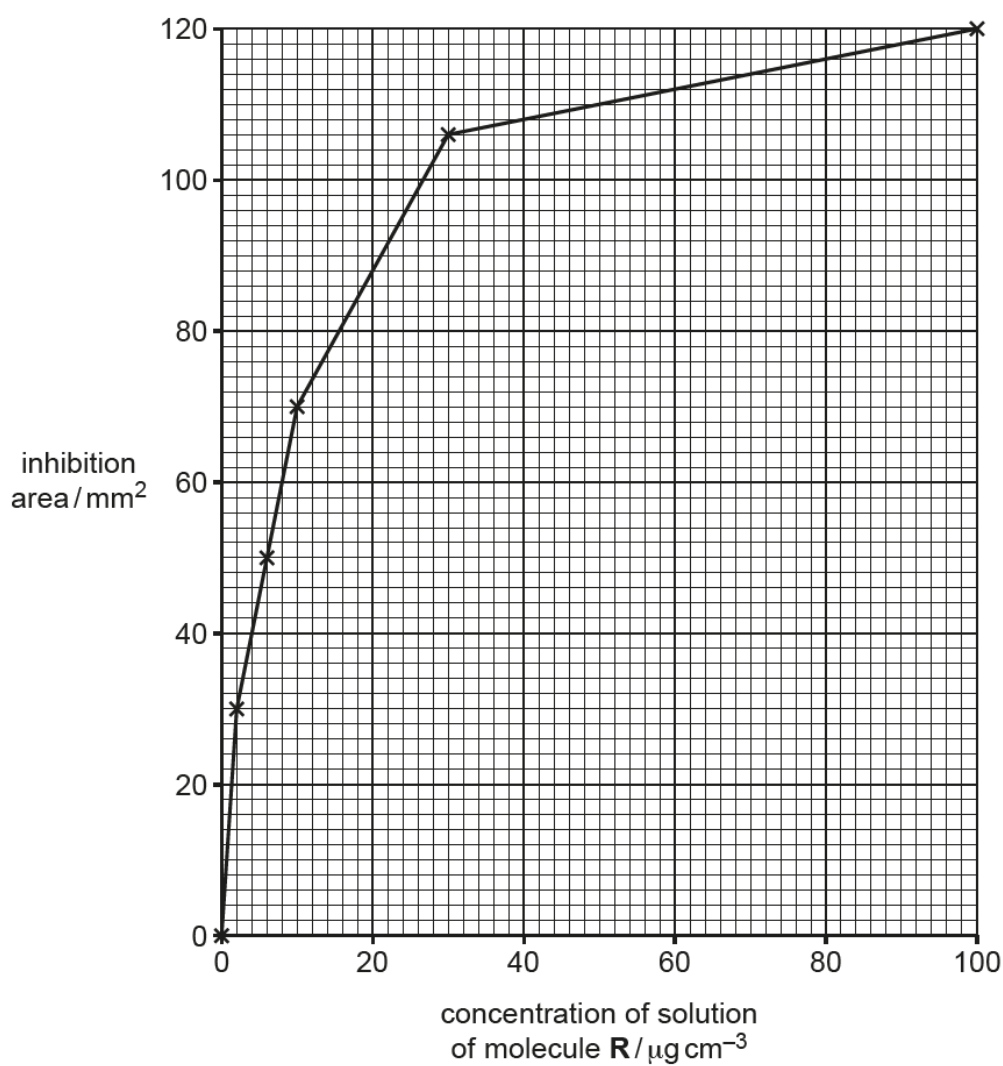

Fig. 1.5
The results are shown in Fig. 1.5.
- (i) Use the graph in Fig. 1.5 to estimate the concentration of plant extract that results in an inhibition area of 92 mm^2 .
(ii) Describe the trend shown in Fig. 1.5.